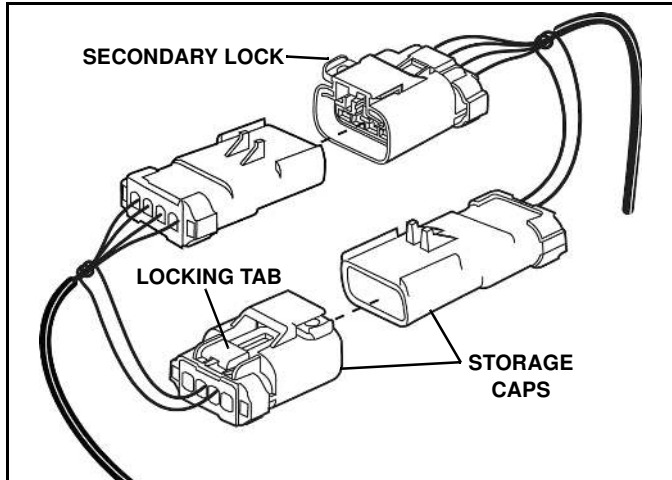

Figure 1-14
2. Disconnect the plow control harness and replace the protective cap. (See Figure 1-14)